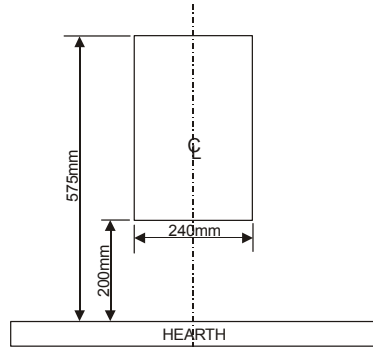

Figure 50 – Recessed Fan Unit Template
6. **If recessing the fan box assembly**, cut through the outer wall as detailed in **Figure 50**.
10. **If recessing the fan box assembly**, cut an opening in the outer wall as detailed in **Figure 50**.
9. **If recessing the fan box assembly**, cut an opening in the outer wall as detailed in **Figure 50**. Ensure that the vapour barrier is cut carefully and made good to maintain its integrity.